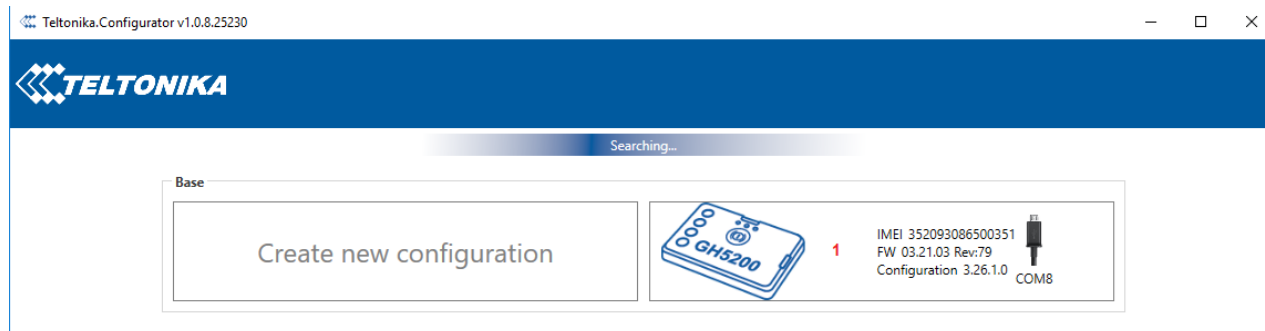

Figure 24 GH5200 configurator devices connection window
- After successful connection to the device wait a few moments while the device loads the current configuration, then navigate to Bluetooth section as shown on **Figure 24**.
- When device configuration is loaded press **Bluetooth** settings (**Figure 24** position 1).
- Turn on BT Radio by pressing Enable (visible) (**Figure 24** position 2). Local name (**Figure 24** position 3) will be "GH5200_last 7 imei digits" by default, which can be changed.
- Set *Security Mode* (**Figure 24** position 4) to *PIN only* or *None*. *PIN + MAC list* or *MAC list only* security modes could also be selected, but in that case external device MAC address is required to be entered to *Authorized Devices MAC List* (**Figure 24** 7 position).
- Set connection mode to *Hands Free* (**Figure 24** position 5).
- Set *External Name* (**Figure 24** position 6) as your hands-free device name for proper identification. In the given example hands-free headset name is "DMH10" but at least 2 characters are required to recognize it and connect to it. For better and quicker adapter identification on the network you could enter a full device name. You could check your hands-free adapter Bluetooth name by scanning nearby Bluetooth devices using a mobile phone or a computer with Bluetooth adapter.
Bluetooth starts automatically when GH5200 device is on. Take your mobile phone, go to **Settings->Bluetooth** and turn it on. Scan for nearby devices, find the device in the list, distinguish the device by last IMEI digits on device module. Press pair, wait until device asks to enter pairing password, type: "5555" (as in the example on the **Figure 24**). Paired device will show up in the paired device list. Download a terminal for Bluetooth e.g. *BlueTerm* from *Play Store/App store*. Run app, click **Find->Connect** to your paired device. Now we need to send a command to GH5200 from Bluetooth terminal, type: ".log:1". Device will respond with "Debug enabled" and GH5200 log will show up. Do not forget to save the log file to mobile phone.